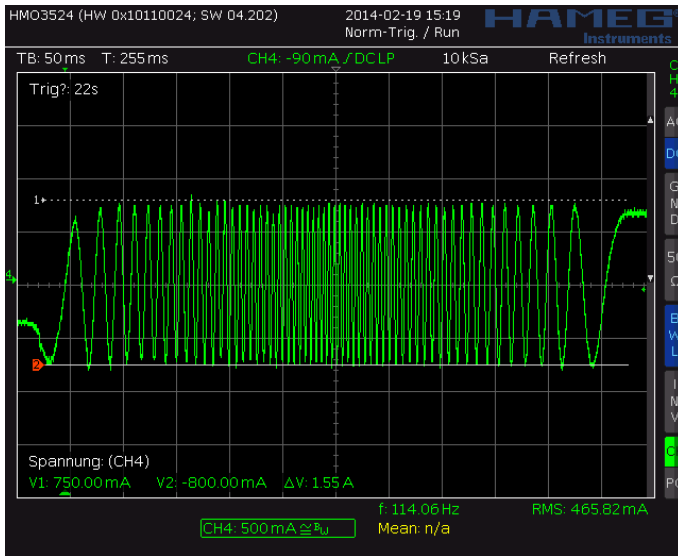
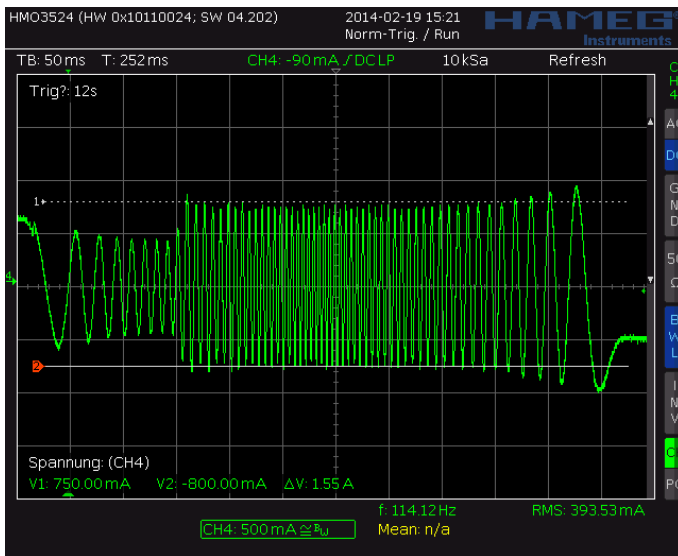
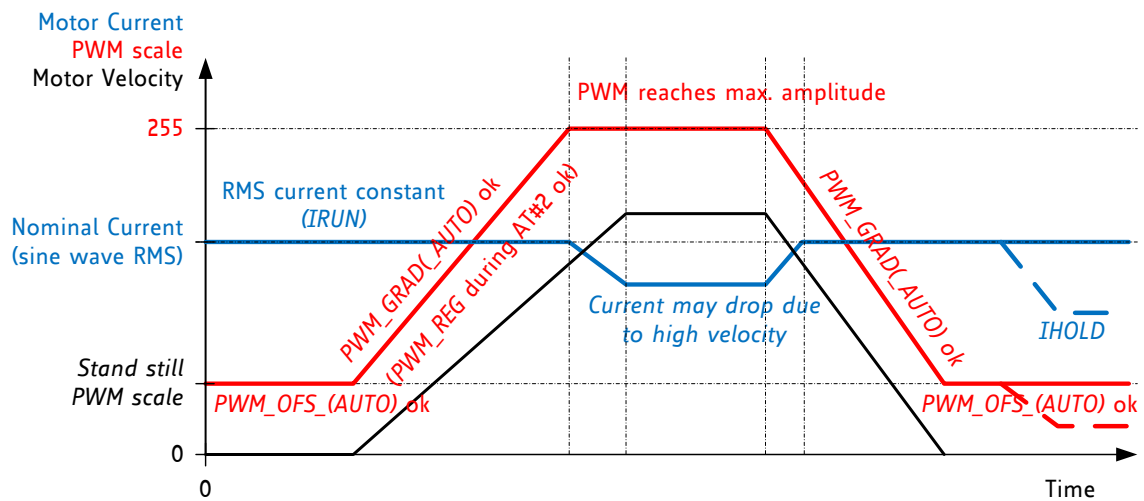

Figure 6.3 Scope shot: good setting for PWM_REG
Figure 6.4 Scope shot: too small setting for PWM_REG during AT#2
Figure 6.5 Successfully determined PWM_GRAD(AUTO) and PWM_OFS(AUTO)
In stealthChop voltage PWM mode, the autoscaling function ($pwm_autoscale = 1$, $pwm_auto_grad = 1$) regulates the motor current to the desired current setting. Automatic scaling is used as part of the automatic tuning process (AT), and for subsequent tracking of changes within the motor parameters. The driver measures the motor current during the chopper on time and uses a proportional regulator to regulate PWM_SCALE_AUTO in order match the motor current to the target current. PWM_REG is the proportionality coefficient for this regulator. Basically, the proportionality coefficient should be as small as possible in order to get a stable and soft regulation behavior, but it must be large enough to allow the driver to quickly react to changes caused by variation of the motor target current (e.g. change of VREF). During initial tuning step AT#2, PWM_REG also compensates for the change of motor velocity. Therefore, a high acceleration during AT#2 will require a higher setting of PWM_REG . With careful selection of homing velocity and acceleration, a minimum setting of the regulation gradient often is sufficient ($PWM_REG=1$). PWM_REG setting should be optimized for the fastest required acceleration and deceleration ramp (compare Figure 6.3 and Figure 6.4). The quality of the setting PWM_REG in phase AT#2 and the finished automatic tuning procedure (or non-automatic settings for PWM_OFS and PWM_GRAD) can be examined when monitoring motor current during an acceleration phase Figure 6.5.